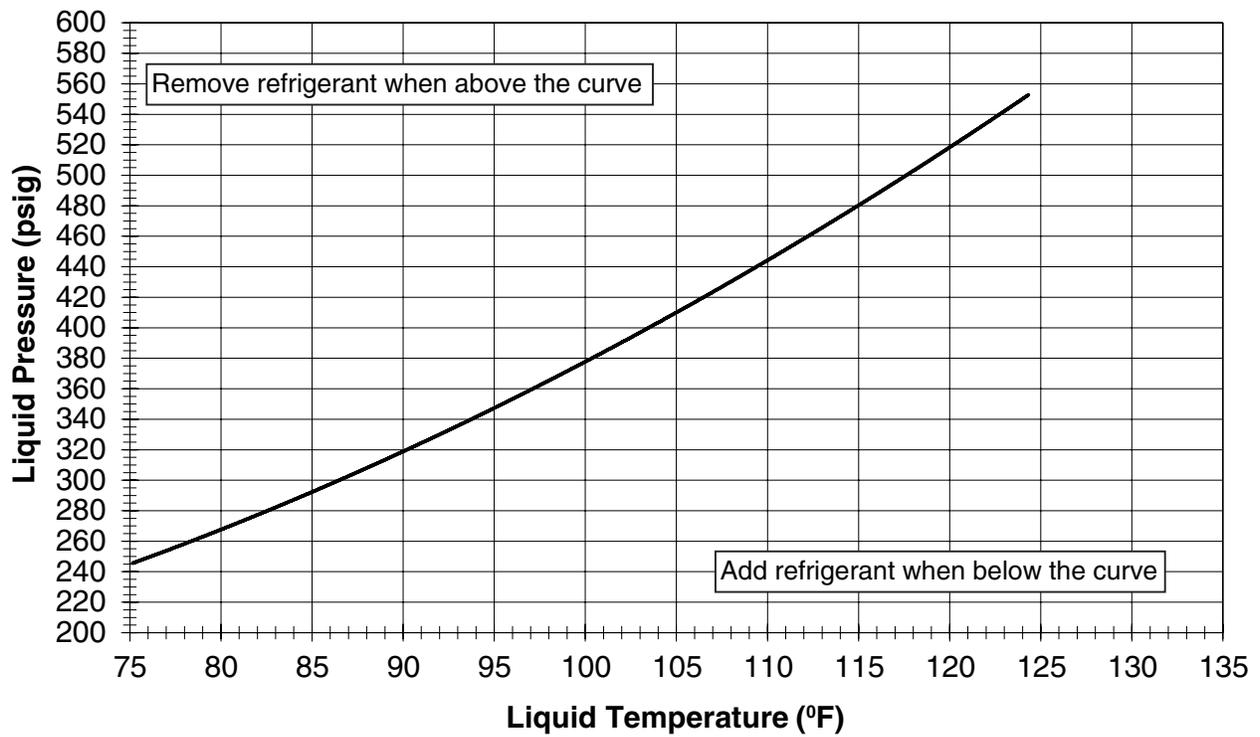

Figure 8. Charging Chart for 3.5 Ton Models
- Cooling mode charging charts and tables are applicable only to matched assemblies of this equipment and listed airflows for the indoor coil. Refer to the Quick Reference Data sheet for additional charging information. Outdoor units with non-AHRI listed indoor coils are not recommended and deviations from rated airflows or non-listed combinations may require modification to the expansion device and refrigerant charging procedures for proper and efficient system operation. For correct system charging, refer to Figure 5 \(page 9\), Figure 6 \(page 10\), Figure 7 \(page 10\), & Figure 8 \(page 11\), and Table 5 \(page 12\), Table 6 \(page 12\), & Table 7 \(page 13\).
3. Determine the required liquid refrigerant pressure from Figure 5 \(page 9\), Figure 6, Figure 7, & Figure 8.
- Charging charts are valid for a variety of indoor, return air conditions and are most influenced by the outdoor ambient temperature, outdoor fan operation and the unit operating voltage. Before using these charts, make sure the unit is in a stable operating mode. As shown in the charging charts: Figure 5 \(page 9\), Figure 6, Figure 7 \(page 10\), & Figure 8 \(page 11\). The ideal system sub-cooling can vary over the range of operation. Reference the charts to determine the ideal amount of sub-cooling for a given liquid pressure. Units charged to other values will not perform at the rated unit efficiency (EER) or rated Coefficient of Performance (COP) in heating mode.